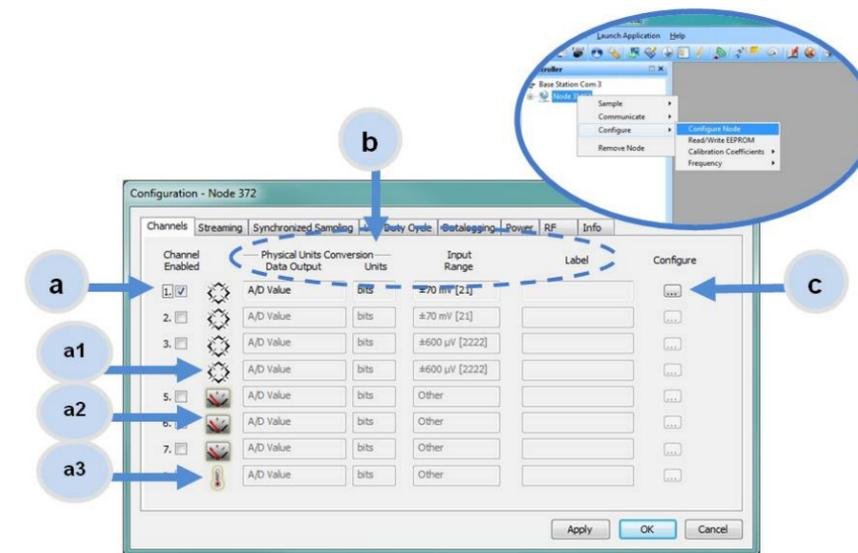

Figure 12 - Node Channels Menu
- a. **Channel Enabled:** indicates the channel number. The check box is used to enable the channel and select it for sampling. The icon next to the check box describes the channel type, which is intrinsic to the node being used. In the following example (Figure 12 - Node Channels Menu): a1) analog differential channel icon, a2) analog single ended channel icon, and a3) temperature channel icon.